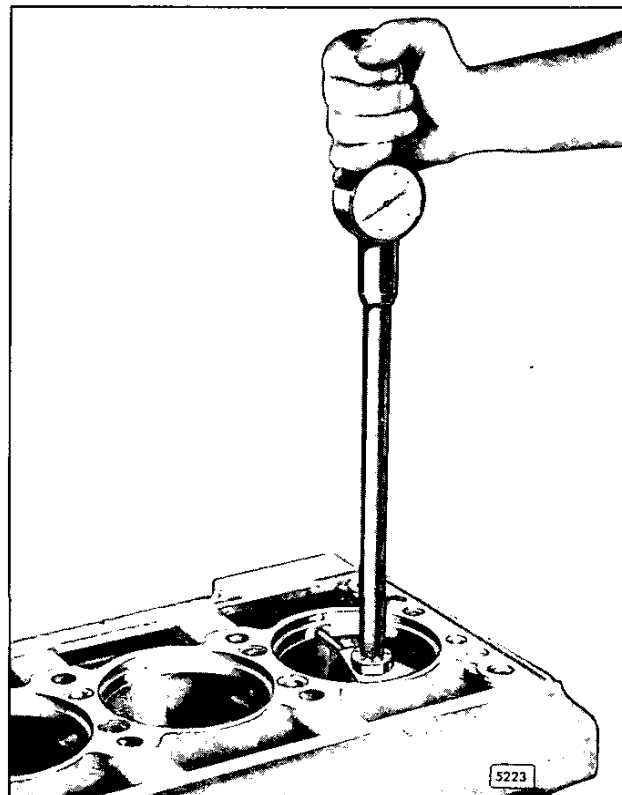
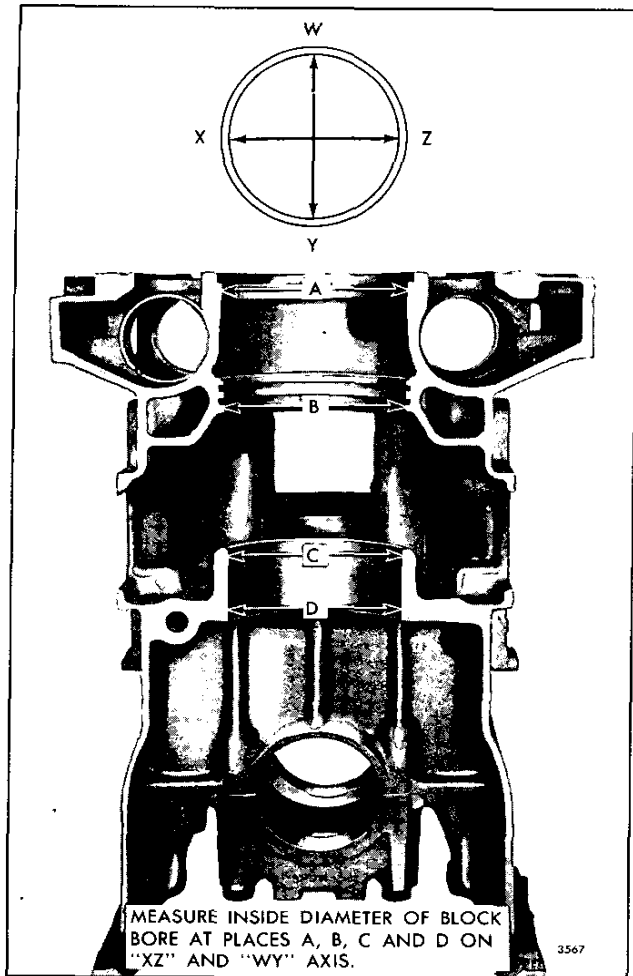

Fig. 13 - Checking Cylinder Block Bore with Tool J 5347-B
Fig. 14 - Block Bore Measurement Diagram
- b. To determine if an oversize O.D. cylinder liner is required, measure the entire bore of each cylinder with cylinder bore gage J 5347-B (Fig. 13) which has a dial indicator calibrated in .0001" increments. Use dial bore gage setting tool J 23059-01 to preset the cylinder bore gage to zero. Measure each block bore at the positions indicated in Fig. 14, on axis 90° apart. If the diameter does not exceed 4.5235" at position "A", 4.4900" at position "B" (and a sealing problem hasn't occurred), or 4.3595" at position "C" and "D", then the block may be reused. Also, the taper and out of round must not exceed .0015".
Portable boring bars are commercially available to bore cylinder blocks oversized. Instructions on their correct use are provided by the manufacturers. When boring the block, measure the block after each cut at the locations shown on Fig. 14 and observe the dimensional limits in Table 1.